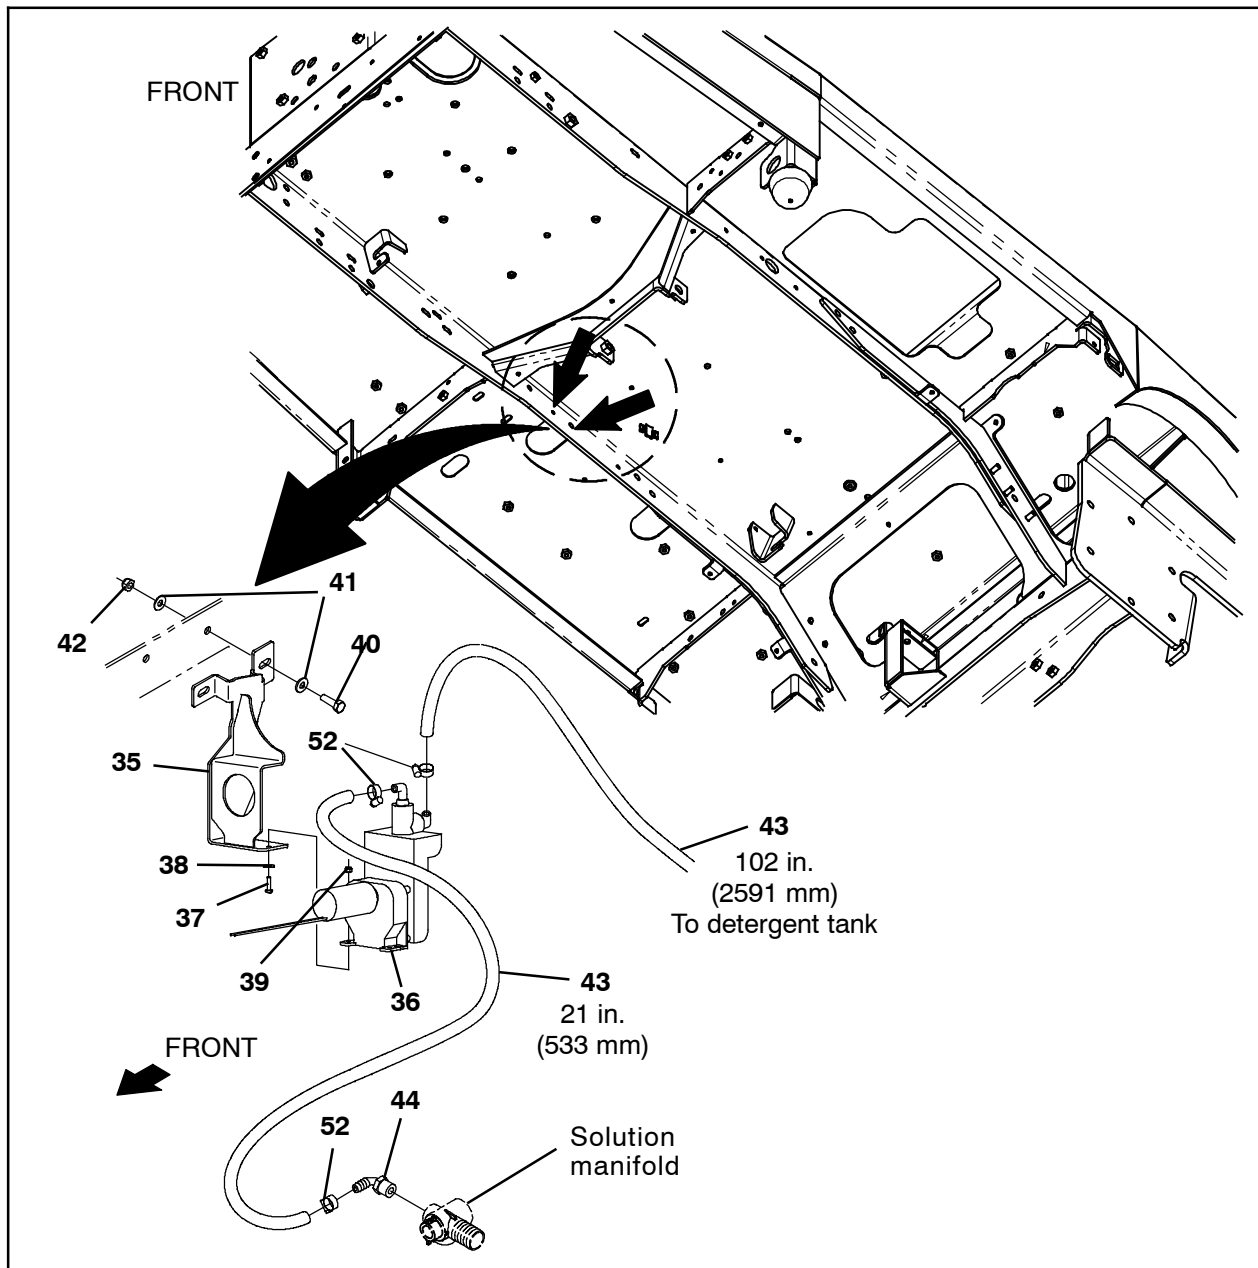
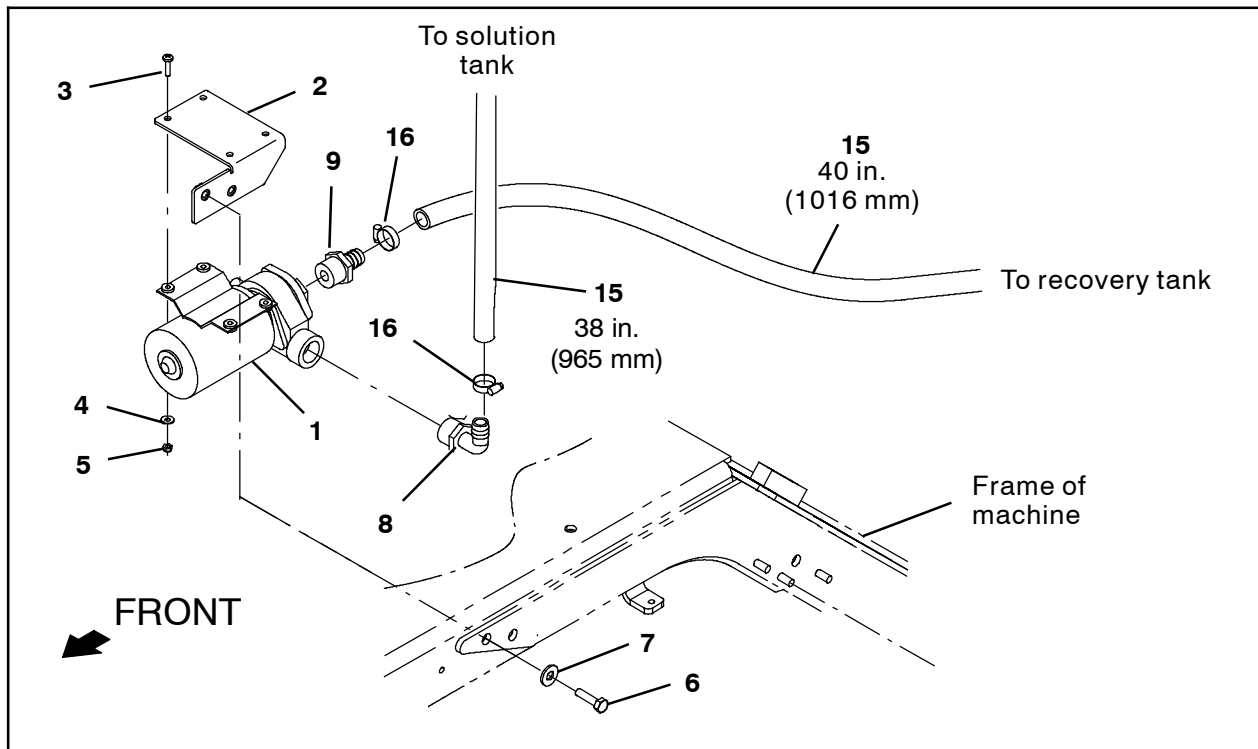
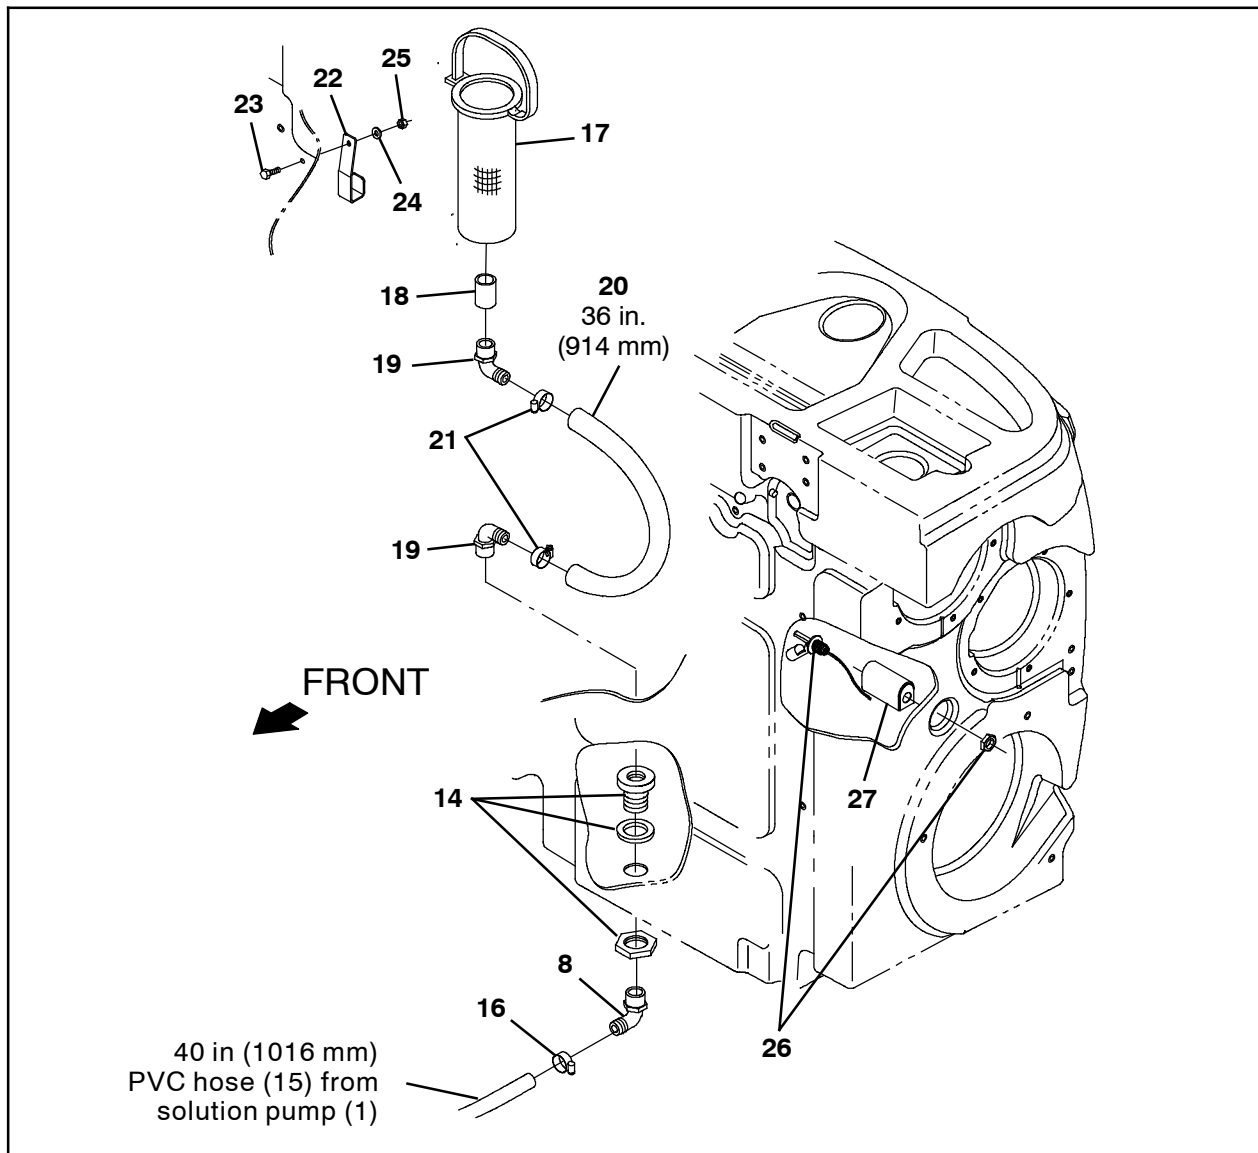
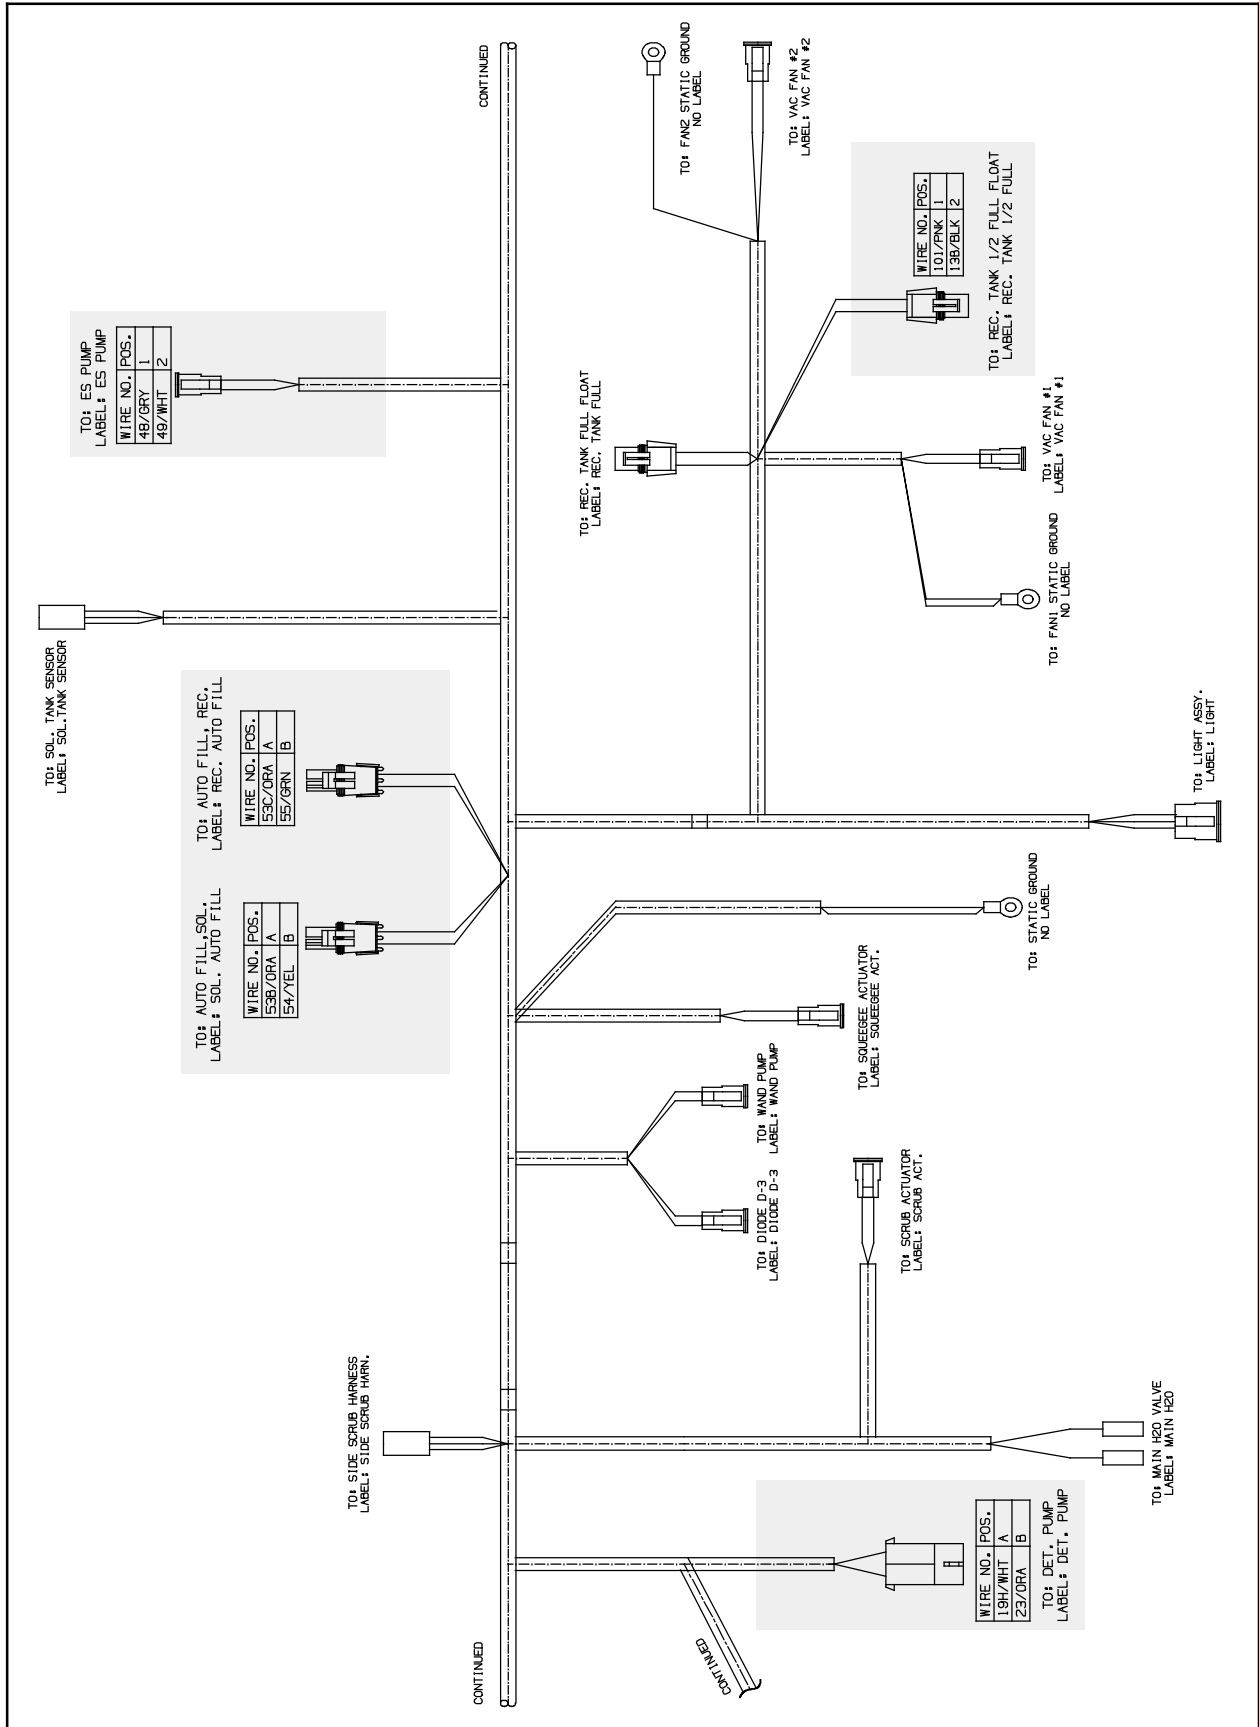

FIG. 4
FIG. 5
FIG. 7
FIG. 12
32. Connect the main wire harness to both solenoid valves (53). (Fig. 4 / Fig. 12)
- 36. Use two M4 pan screws (37) and two flat washers (38), and two M4 lock hex nuts (39) to install the detergent pump (36) onto the pump bracket (35). (Fig. 4)
- 37. Use a hose clamp (52) to connect the 21 in. (533 mm) PVC hose (43) to the detergent pump (36) outlet port. (Fig. 4)
- 38. Use a hose clamp (52) to connect the 102 in. (2591 mm) PVC hose (43) to the detergent pump (36) inlet port. (Fig. 4)
- 39. Thread an plastic elbow fitting (44) into the solution manifold. (Fig. 4)
- 40. Use two M8 hex screws (40) and four flat washers (41), and two M8 lock hex nuts (42) to install the detergent pump (36) / pump bracket (35) onto the frame of the machine. (Fig. 4)
- 41. Connect the main wire harness to the detergent pump (36). (Fig. 4 / Fig. 12)
- 42. Route the 21 in. (533 mm) PVC hose (43) to the solution manifold and use a hose clamp (52) to connect the PVC hose to the solution manifold. (Fig. 4)
43. Use four M5 pan screws (3), four flat washers (4), and four M5 hex nuts (5) to install the pump bracket (2) onto the solution pump (1). (Fig. 5)
44. Thread a plastic elbow fitting (8) into the solution pump (1). Note orientation of the plastic elbow fitting. (Fig. 5)
45. Thread a plastic straight fitting (9) into the solution pump (1). (Fig. 5)
46. Use a hose clamp (16) to connect the 40 in. (1016 mm) PVC hose (15) to the plastic straight fitting (9) installed in the solution pump (1). (Fig. 5)
47. Use a hose clamp (16) to connect the 38 in. (965 mm) PVC hose (15) to the plastic elbow fitting (8) installed in the solution pump (1). (Fig. 5)
48. Use two M8 hex screws (6) and two flat washers (7) to install the solution pump assembly onto the frame of the machine. (Fig. 5)
49. Connect the main wire harness to the solution pump (1). (Fig. 5 / Fig. 12)
51. Remove the jam nut from the liquid level sensor (26). (Fig. 7)
52. Route the liquid level sensor (26) cable through the hole in the float switch protector bracket (27) and use the jam nut from the liquid level sensor to secure the liquid level sensor / float switch protector bracket to the solution tank. (Fig. 7)
53. Connect the main wire harness to the liquid level sensor (26). (Fig. 7 / Fig. 12)
54. Thread one plastic elbow fitting (19) into the plastic bulkhead fitting (14). (Fig. 7)
55. Use a hose clamp (21) to connect the 36 in. (914 mm) PVC hose (20) to the plastic elbow fitting (19). (Fig. 7)
56. Thread the plastic straight fitting (18) into the solution strainer (17). (Fig. 7)
57. Thread one plastic elbow fitting (19) into the plastic straight fitting (18) / solution strainer (17). (Fig. 7)
58. Use a hose clamp (21) to connect the 36 in. (914 mm) PVC hose (20) to the plastic elbow fitting (19) on the solution strainer (17). (Fig. 7)
59. Use a M6 hex screw (23), a sealing washer (24), and a M6 hex nut (25) to install the strainer bracket (22) inside the recovery tank. (Fig. 7)
60. Hang the solution strainer (17) on the strainer bracket (22). (Fig. 7)